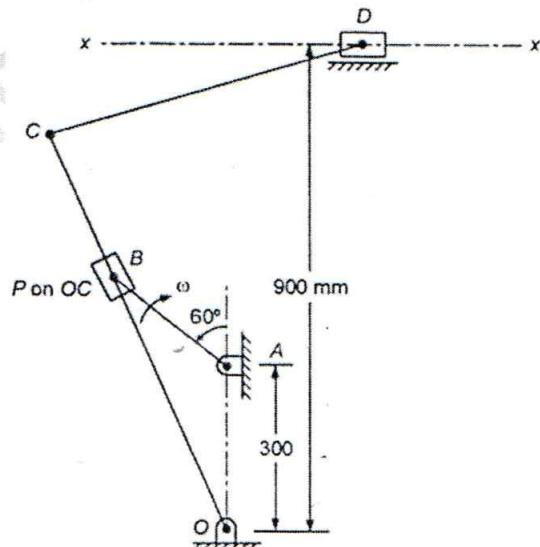

Fig.7a
- 7 In the crank and slotted lever type quick return motion mechanism shown in Fig. 7a, the crank AB rotates at 120 rpm (CW). Determine (a) velocity of ram at D, (b) magnitude of Coriolis acceleration component, and (c) acceleration of ram at D. AB = 200 mm, OC = 800 mm, CD = 600 mm and OA = 300 mm. 20